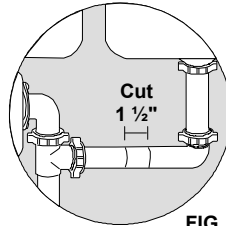

FIG. 7
1. Measure the midpoint on the horizontal waste ell and cut out 1-1/2-inch tubing. (See Fig. 7)